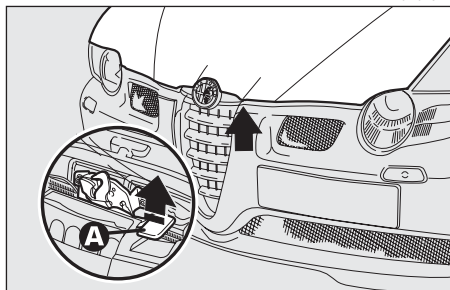

fig. 24
- press the safety lever (**A-fig. 24**) upwards.